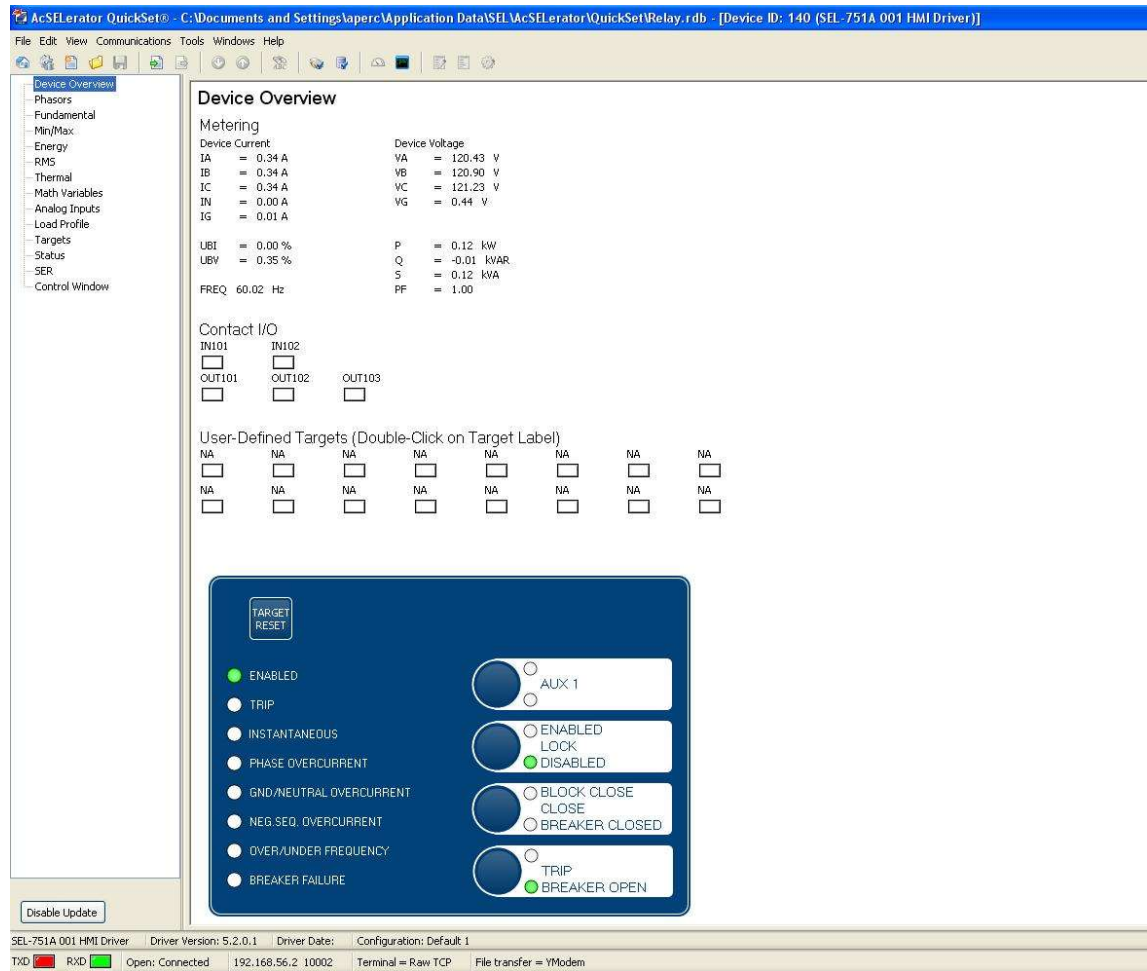

Figure 4.44 Device Overview on HMI
- 3) The software reads the relay data. Once the data is read, the screen shown in Figure 4.44 will appear.